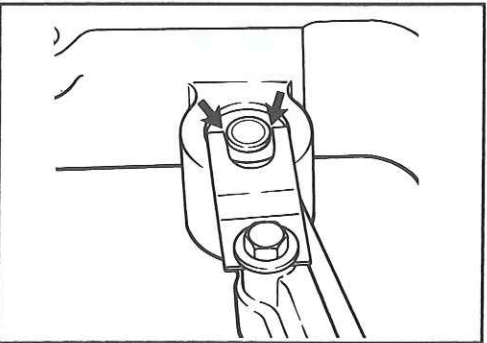

Fig. 46
3. Reassemble in reverse order. When tightening the capscrew, make certain the two spring tabs do not interfere with the sides of the master piston center raised portion. See Fig. 46.